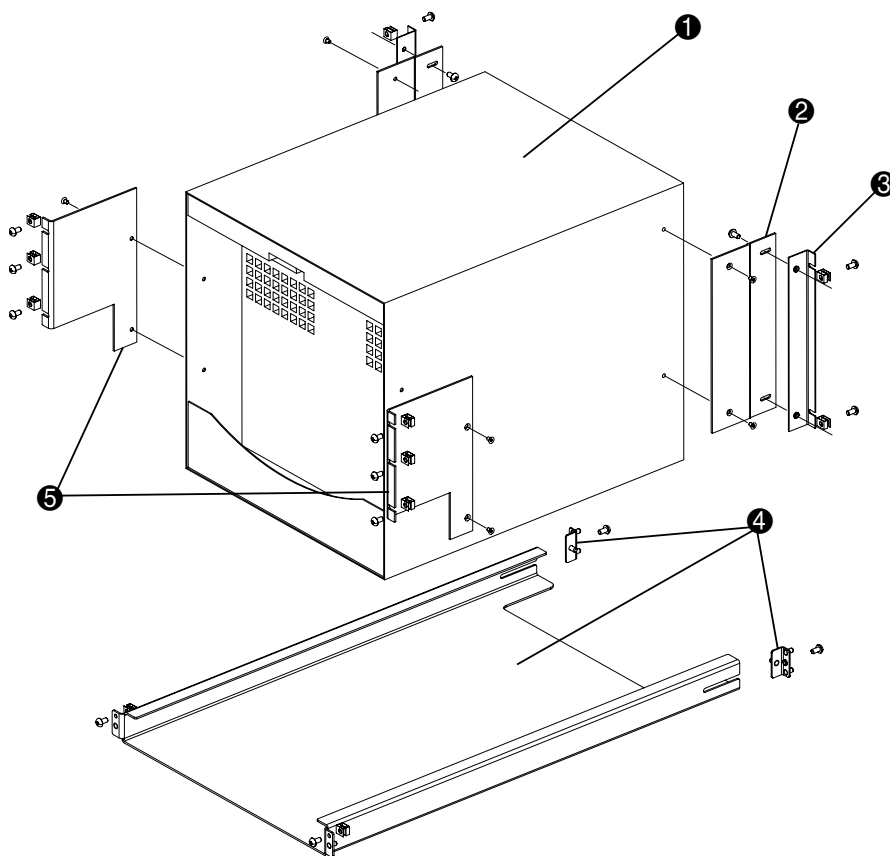

Figure 10: Carton contents for a HP system/e or industry-standard 19-in rack installation
3. Verify carton contents, as shown in Figure 8 and Table 3 for the Director 2/64, as shown in Figure 9 and Table 4 for the HP 9000, HP 10000, and HP 11000 Series Rack kit, and as shown in Figure 10 and Table 5 for the HP system/e and industry-standard 19-in rack.